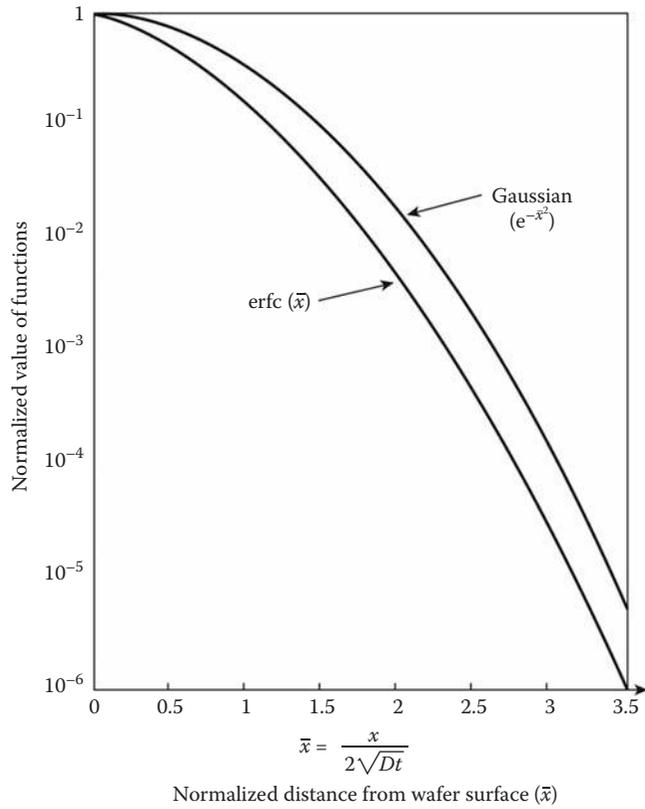

FIGURE 7.26
for case (2), which is the famous Gaussian distribution function. Both functions look quite similar in shape, as shown in Figures 7.26 and 7.27, and their time-dependent evolution at fixed temperature is fundamentally driven by the product of D and t . As an important aside, rapid-thermal-processing (RTP) systems succeed in suppressing dopant diffusion during high-temperature annealing by minimizing the so-called “ Dt product” in these functions.